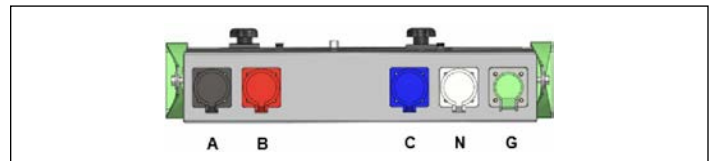

Figure 6. Bottom of unit
7. Connect the load bank cables ABCNG to the Cam-Loks on the LBTOB (Figure 6).